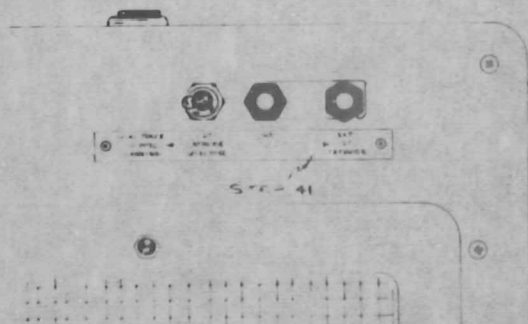

Fig. 1
- () e. Mount the switch in the hole drilled in step 1c, using the flat washer and the 12-sided switch nut from the kit. (Mount with the terminals toward the top). See Fig. 1.